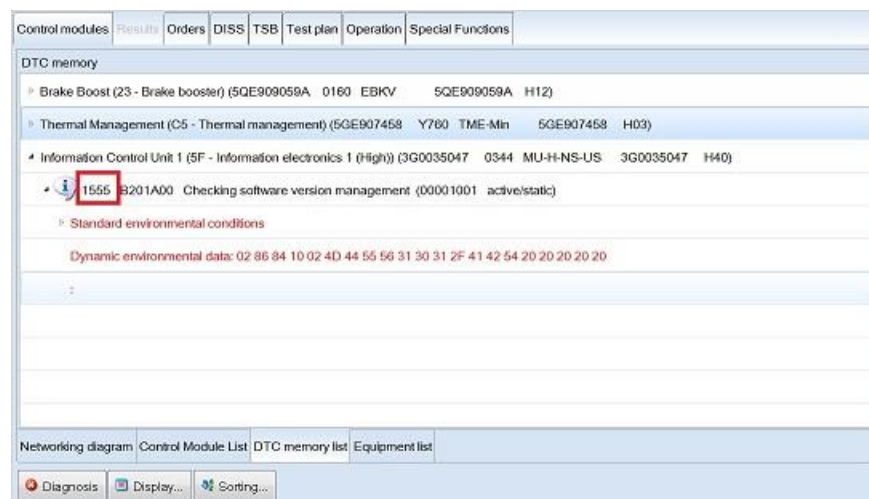

Figure 1
b. In Figure 1 (above), the symptom number shown inside the red box is 1555.